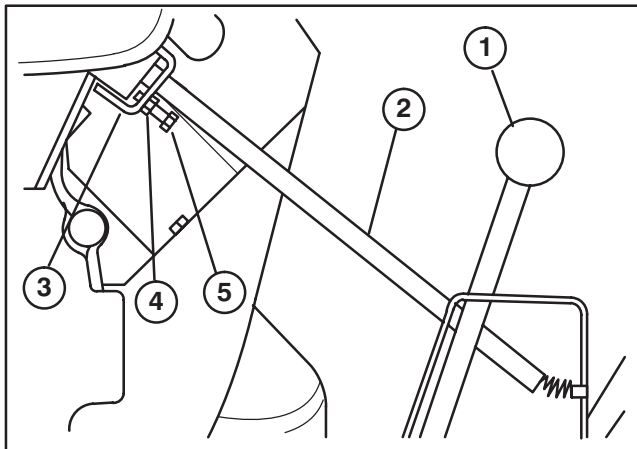

Figure 46
- A. Loosen jam nut on control rod pivot bracket adjusting screw (Fig. 46).